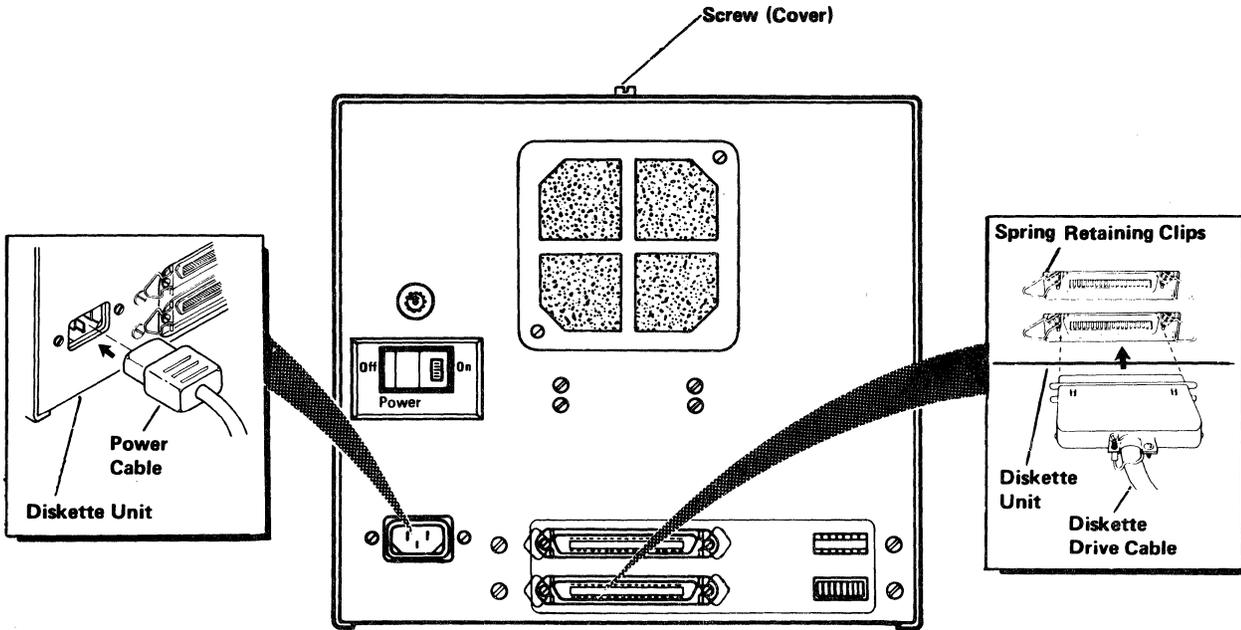

Figure 4-36. 8" Diskette Unit Connections.
2. Position the diskette units POWER switch OFF and unplug the main power cord from the wall outlet (See Figure 4-36).
4. Remove the diskette unit s top cover by carefully laying the unit on its side and removing the five(5) screws holding the cover in place (See Figures 4-36 and 4-37).
4. Place the unit with the cover installed on its side again and replace the five (5) screws holding the cover in place (See Figure 4-36 and 4-37).
5. Return the unit to its upright position and replace the main power cord and any other connectors that were removed (See Figure 4-36).